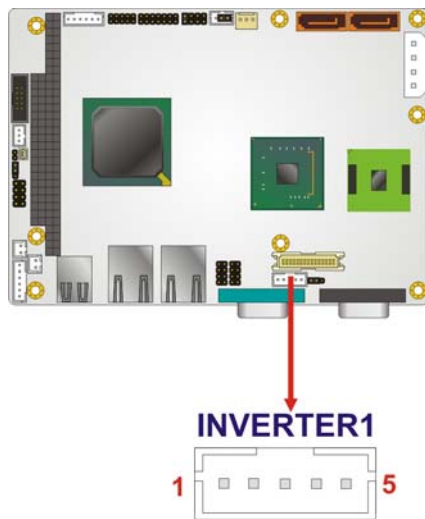

Figure 3-6: Panel Backlight Connector Location
- CN Location:** See **Figure 3-6**